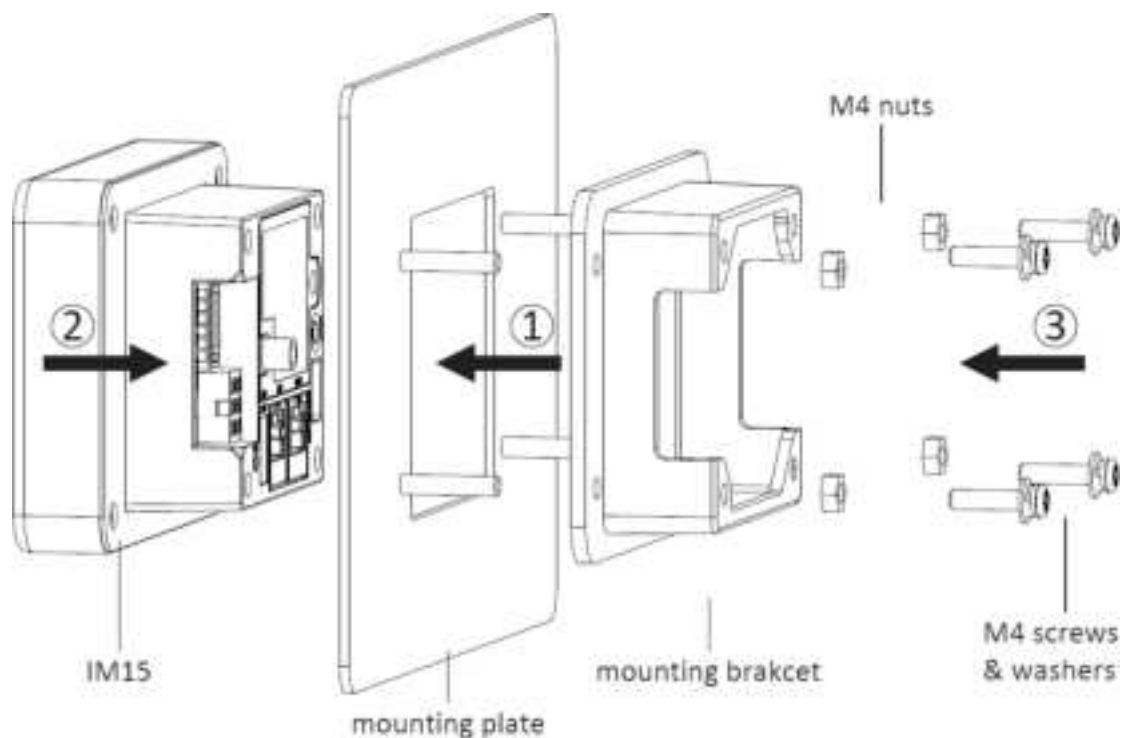

Figure 7: device installation
- 1) The back face of the installation should have four stud bolts corresponding to the mounting points located on mounting bracket. Slide the mounting bracket into place with the orientation shown in figure 7 and then fix it in place with four M4 nuts.
- 2) Slide the IM15 unit into place with the orientation shown in figure 7. The back portion of the device should rest securely inside the mounting bracket.